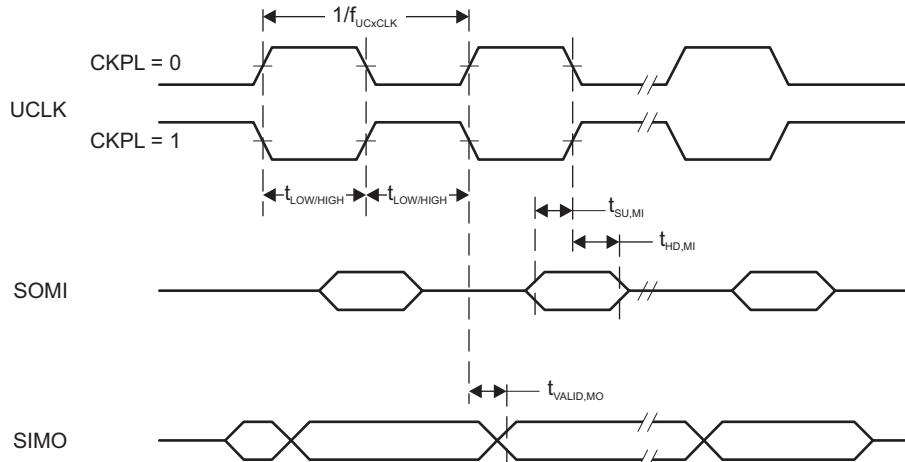
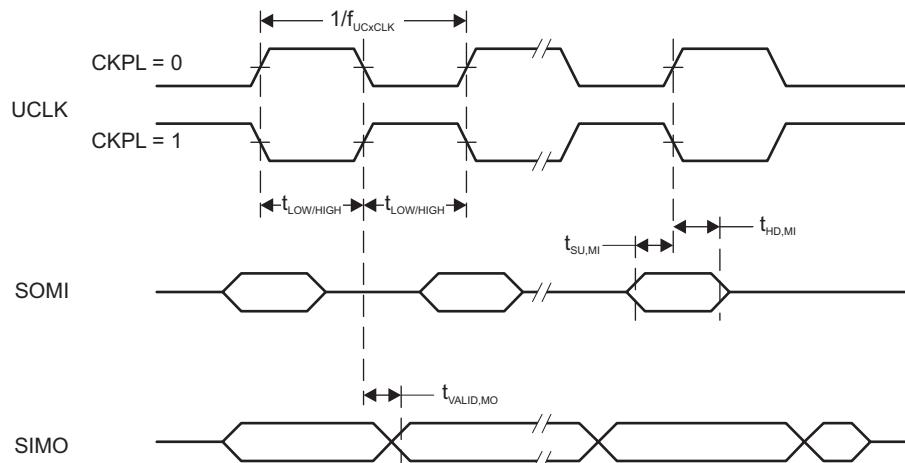

Figure 5-10. SPI Master Mode, $\text{CKPH} = 0$
Figure 5-11. SPI Master Mode, $\text{CKPH} = 1$
(2) Specifies the time to drive the next valid data to the SIMO output after the output changing UCLK clock edge. See the timing diagrams in Figure 5-10 and Figure 5-11.
(3) Specifies how long data on the SIMO output is valid after the output changing UCLK clock edge. Negative values indicate that the data on the SIMO output can become invalid before the output changing clock edge observed on UCLK. See the timing diagrams in Figure 5-10 and Figure 5-11.